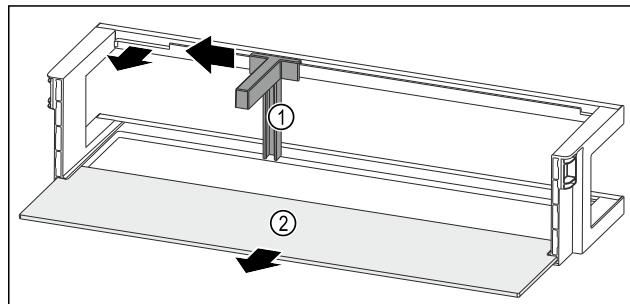

Fig. 117 Door racks with bottle holder and shelf
- ▶ Push the bottle holder Fig. 117 (1) to the side up to the recess.
- ▶ Remove the bottle holder Fig. 117 (1).
- ▶ Remove the shelf Fig. 117 (2).